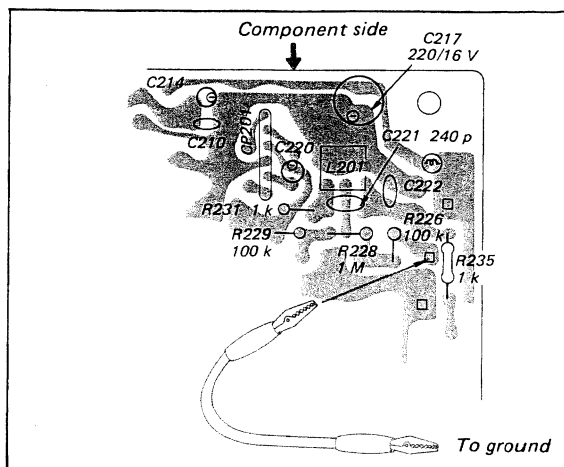

Fig. 3-2. Interruption of afc circuit
3. Short the test point of R226 (AFC circuit) on the a-m front-end/i-f amp/MPX board to ground as shown in Fig. 3-2.
- Short the test point of R226 (AFC circuit) on the a-m front-end/i-f amp/MPX board to ground as shown in Fig. 3-2.
1. Short the test point of R226 (AFC circuit) to ground as shown in Fig. 3-2.